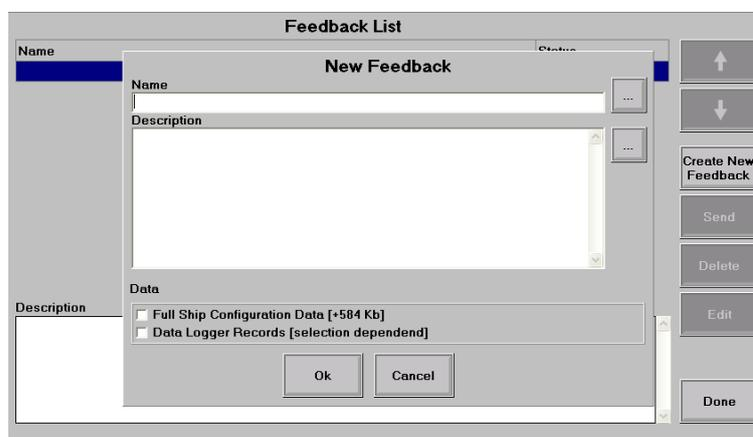

Figure G.4: DPSHELL. Creating feedback
- 1.4. In “New Feedback” window (see Figure G.4):